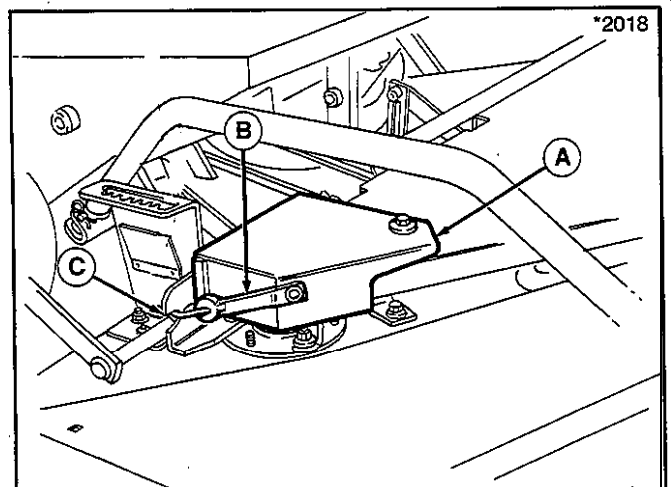

Figure 2. Front Cut Rider Shown
2. Pivot the cover (A, figure 2) over the arbor pulley and hook rubber strap into the notch (C) on the arbor bracket.